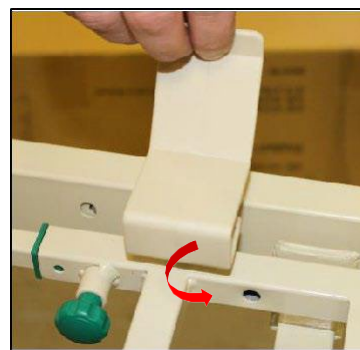

Figure 11: Mattress retaining clip
14. Attach the 4 mattress retaining clips over the hole on the bed frame (figure 11).